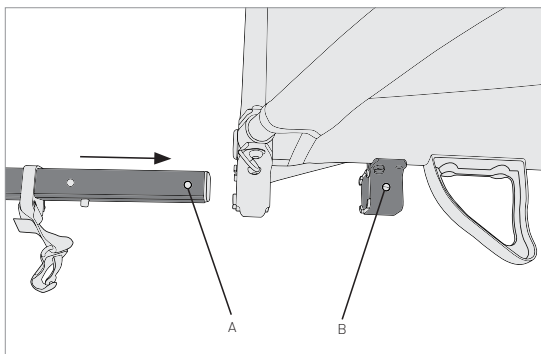

Figure 8
1. Slide the tow bar into the tow bar receivers until hole A is aligned with hole B (Figure 8). The red safety collar must be flush with the front of the tow bar receiver, which indicates that the tow bar has been fully inserted.